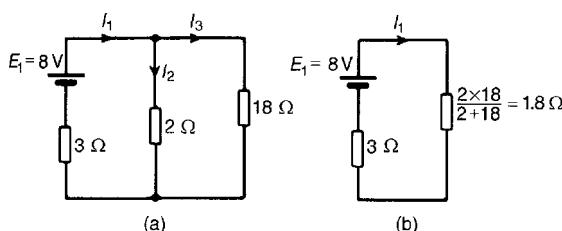
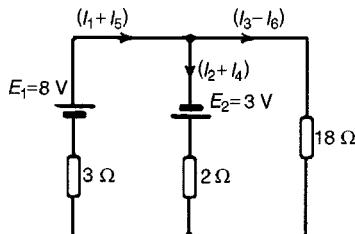

Figure 13.22
Figure 13.24
1. Removing source E_2 gives the circuit of Fig. 13.22(a)
2. The current directions are labelled as shown in Fig. 13.22(a), I_1 flowing from the positive terminal of E_1
From Fig 13.22(b),
From Fig 13.22(a),
5. Superimposing Fig. 13.23(a) on to Fig. 13.22(a) gives the circuit in Fig. 13.24